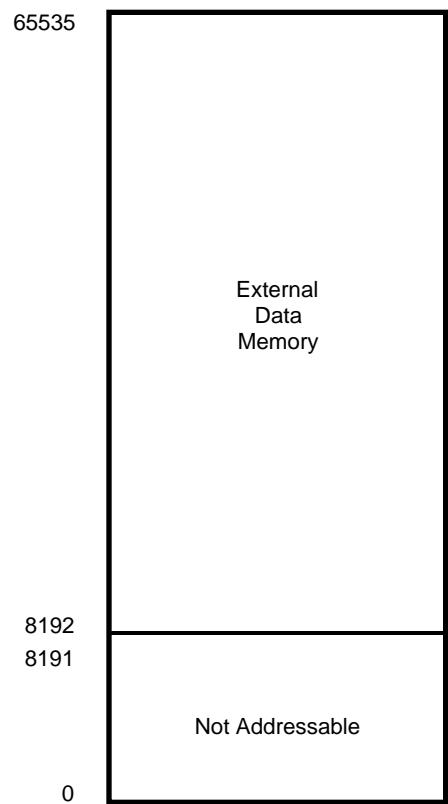

Figure 11. Data Memory Configuration
**Data Memory (/DM).** The ROM version can address up to 56K bytes of external data memory space beginning at location 8192. The ROMless version can address up to 64K bytes of external data memory. External data memory can be included with, or separated from, the external program memory space. /DM, an optional I/O function that can be programmed to appear on P34, is used to distinguish between data and program memory space (Figure 11). The state of the /DM signal is controlled by the type instruction being executed. An LDC opcode references PROGRAM (/DM inactive) memory, and an LDE instruction references DATA (/DM active Low) memory.